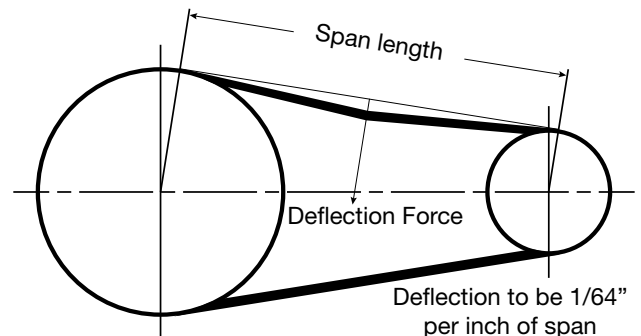

Fig 42 - Tension calculation
1. Remove belt cover (1) and shaft cover (3).
5. Calculate the tension by See Figure 42